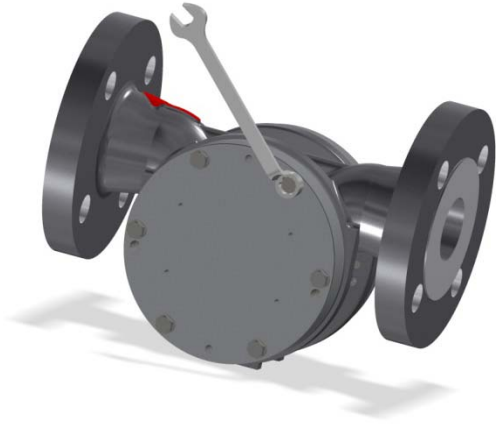

Figure 35 – Removing the bolts of the back cover
1. Remove the back cover mounting bolts and lock washers, as shown in Figure 35.